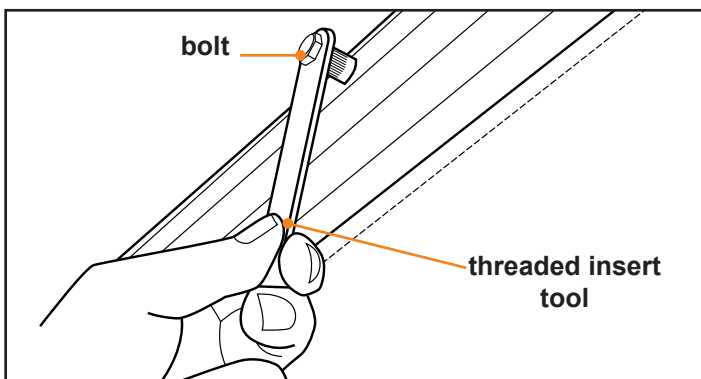

Fig.5
6. Place the bolt through the threaded insert tool and into the threaded insert fastener. Then place the entire assembly into the previously drilled hole (Fig.5).